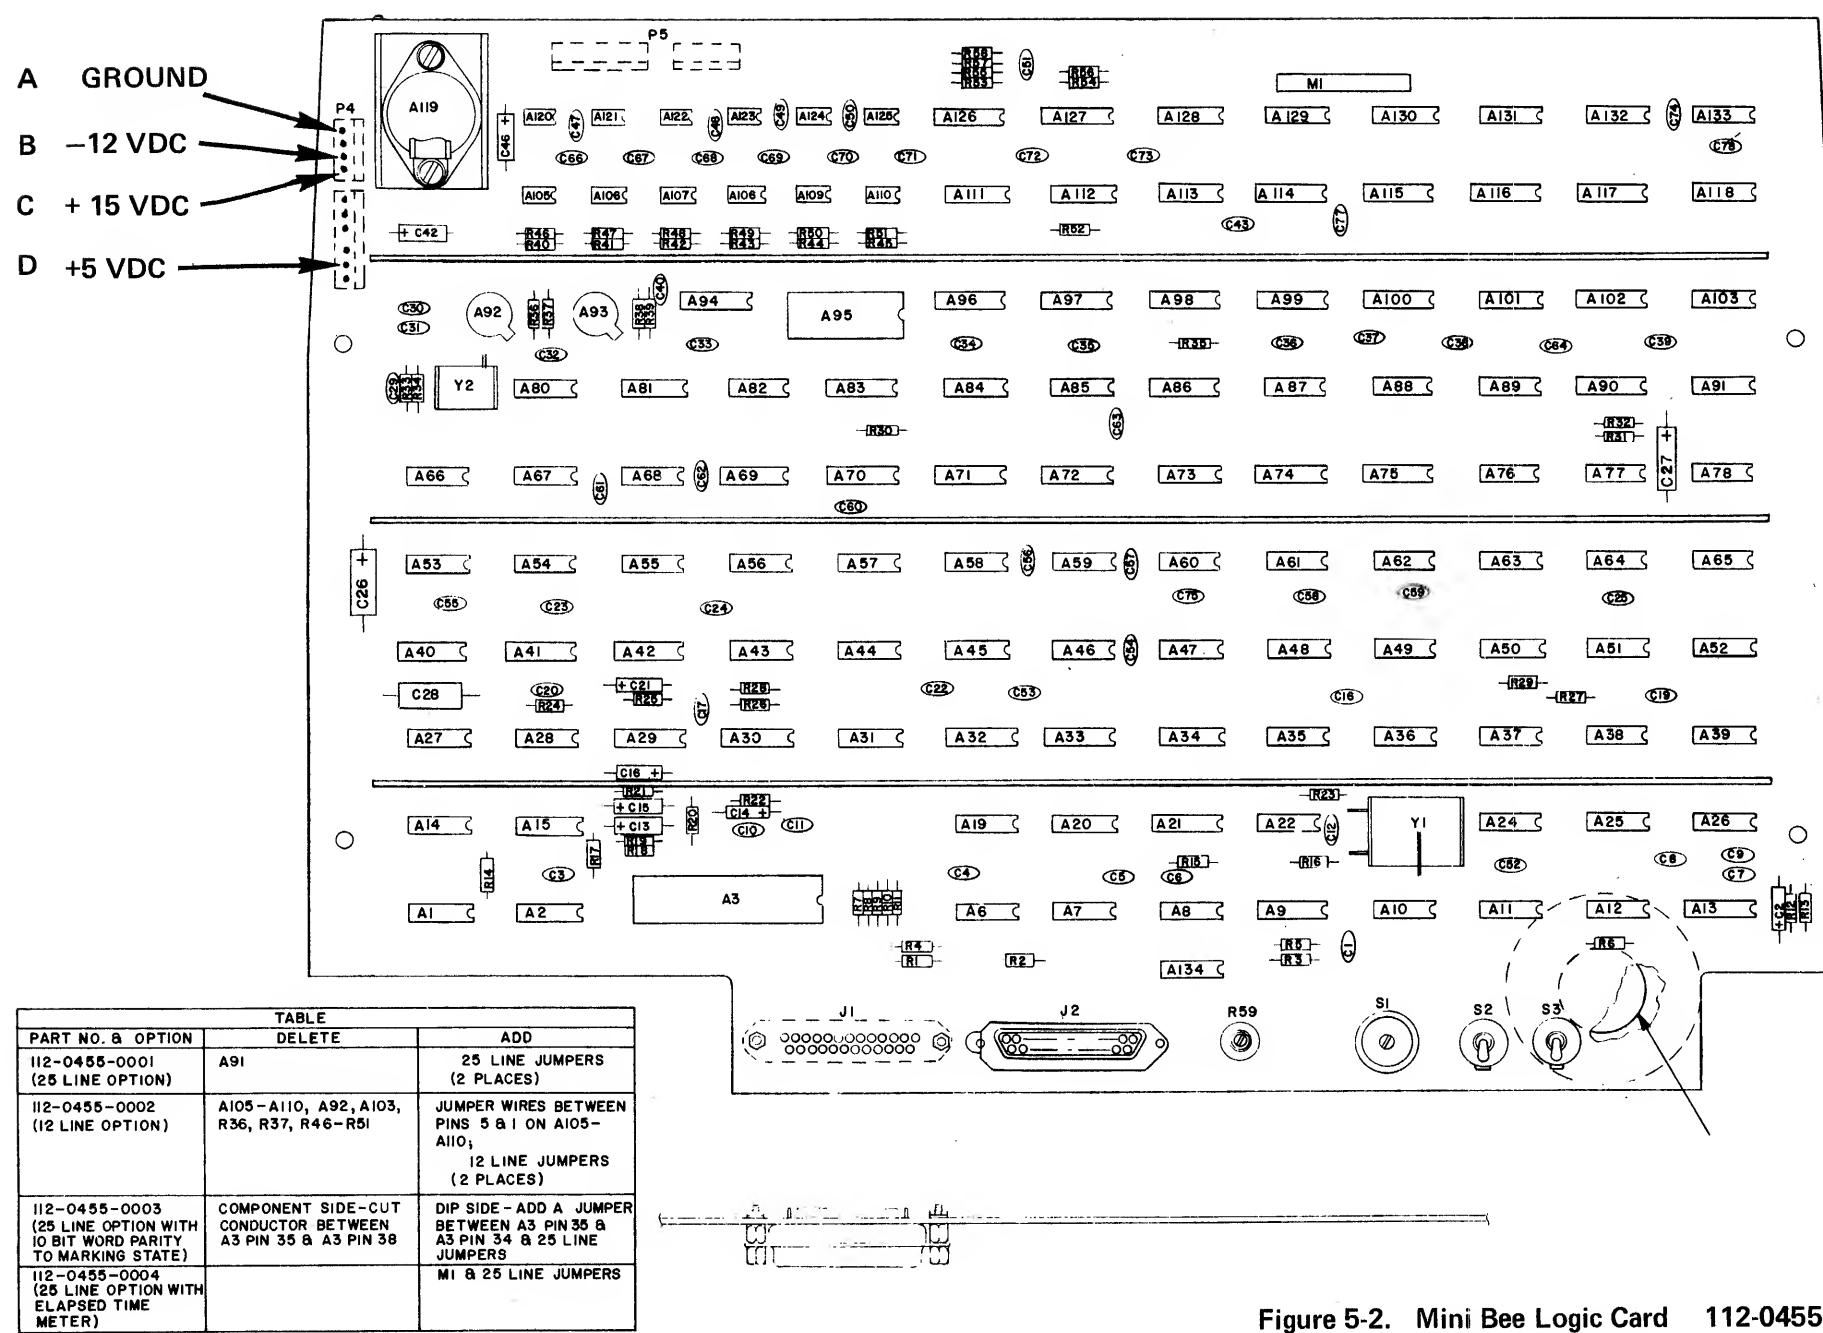
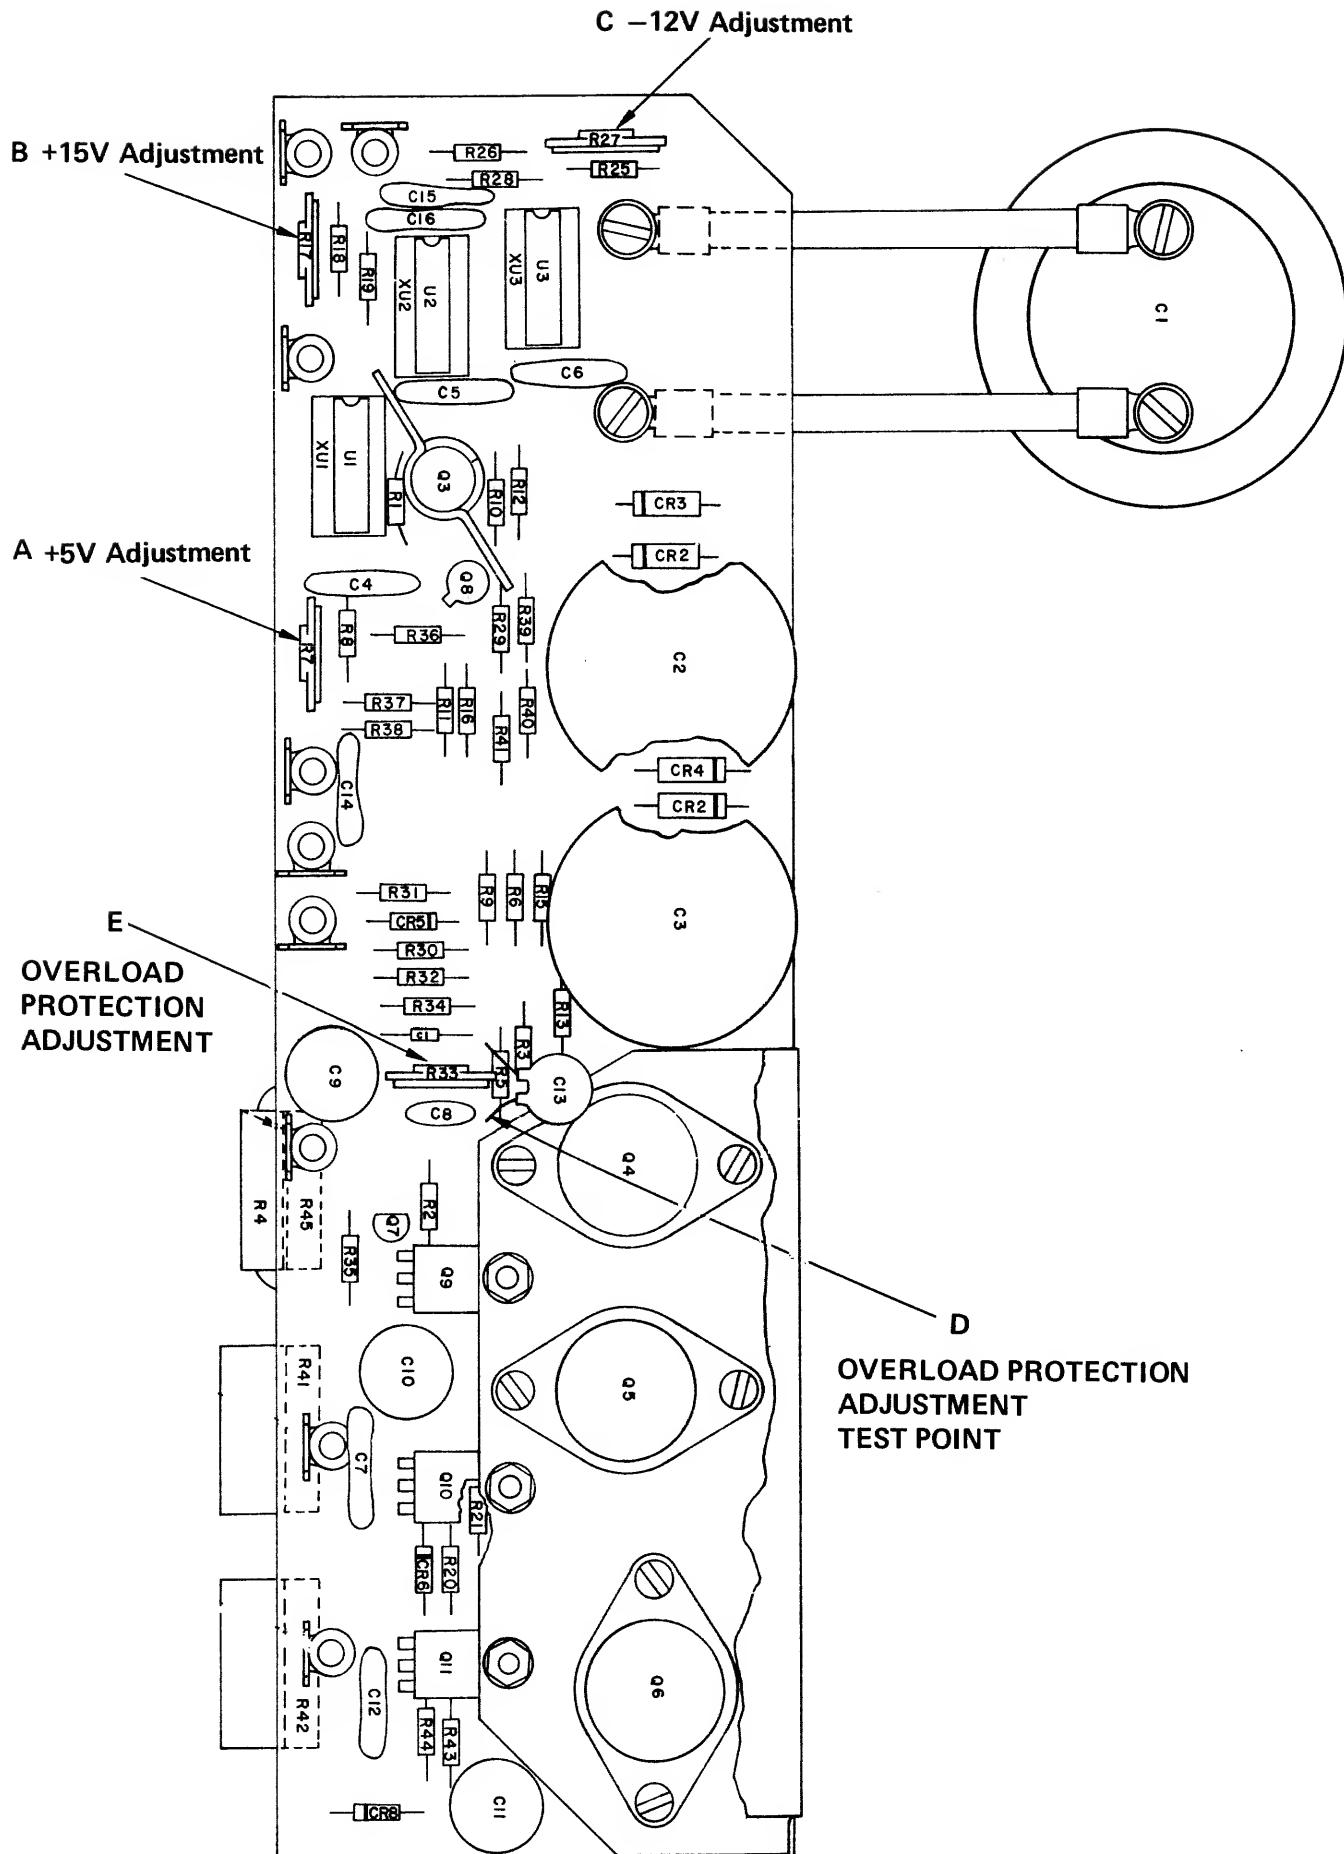
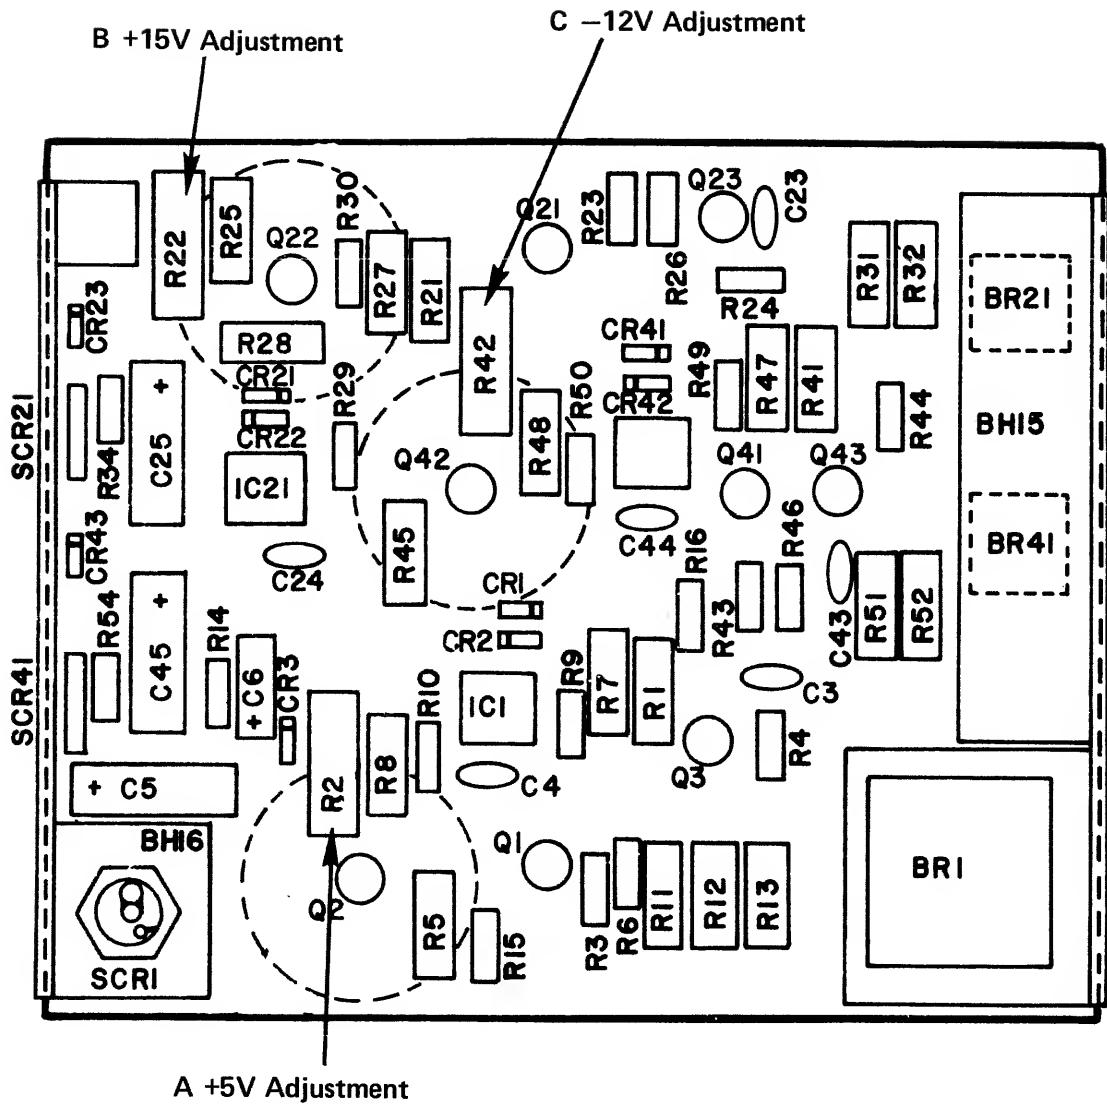

Figure 5-2. Mini Bee Logic Card 112-0455
Figure 5-4. Elexon Power Supply Adjustments
Figure 5-6. Scintillonics Power Supply Adjustments
5-21. The MINI BEE is produced using power supplies manufactured by various companies. All are the same in form, fit and function. Adjustment of all power supply units are monitored by connecting a volt meter at the test points (A through D) indicated on Figure 5-2. Adjustments should be made to assure the output levels are as follows:
The +5 VDC output should be checked and adjusted first. To adjust the +5 VDC voltage level the meter should be connected between the GRND and +5 VDC test points on the Logic Card (see Figure 5-2). The voltage at this point should be +5 VDC $\pm .2V$. If it is not, rotating the adjustment lug on R7 (see Figure 5-4, point A) should bring the voltage within specified limits.
To adjust the +15 VDC voltage level connect the meter between the +15 VDC and GRND test points (see Figure 5-2). The voltage at this point should be +15 VDC $\pm .2V$. If it is not, rotating the adjustment lug on R17 (see Figure 5-4, point B) should bring the voltage within specified limits.
To adjust the -12 VDC voltage level connect the meter between the -12 VDC and GRND test points (Figure 5-2). The voltage at this point should be -12 VDC $\pm .2V$. If it is not, rotating the adjustment lug on R27 (see Figure 5-4, point C) should bring the voltage within specified limits.
The Powerbee PC board is shown in Figure 5-6 and the schematic included in Section VI.
The +5V output is adjustable from approximately +4.8V to +5.2V or until OVP threshold is reached through turning the potentiometer, R2, clockwise (CW). A meter should be connected between the GRND and +5 VDC test points on the Logic Card (see Figure 5-2). The voltage at this point should be +5 VDC $\pm .2V$. If not, rotate R2 (Figure 5-6, point A) to bring the voltage to within specified limits.
To adjust the +15V output, the meter should be connected between the GRND and +15 VDC test points (Figure 5-2). The +15 V output can range from +14.8V to +15.2V. If not, adjust R22 (Figure 5-6, point B) to bring the voltage to within specified limits.
To adjust the -12 VDC output, connect the meter between the GRND and -12 VDC test points (Figure 5-6). The voltage at this point should be -12 VDC $\pm .2V$. If not, adjust R42 to bring the voltage to within specified limits. The -12 VDC output can range from -11.8 to -12.2 VDC.
To adjust the +5 VDC voltage level, the meter should be connected between the GRND and +5 VDC test points (see Figure 5-2). If the voltage at this point is not + 5 VDC, adjust by rotating potentiometer R11 (Figure 5-8, point A) until voltage is within specified limits.
Adjustment of the +15 VDC voltage level is made by connecting the meter between the GRND and +15 VDC test points on the Logic Board (Figure 5-2). If the voltage does not read +15 VDC $\pm .2V$, rotation of the potentiometer R23 (Figure 5-8, point B) will bring the level to within specified limits.
The -12 VDC output level is checked by connecting the meter between the GRND and -12 VDC test points on the board (Figure 5-2). The output level at this point should be -12 VDC \pm .2V. If not, adjust by rotating R33 (Figure 5-8, point C) to bring the level to within specified limits.